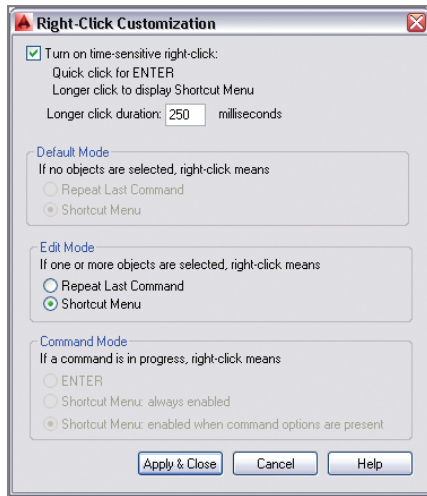

FIGURE 2.9 Turning on Time-Sensitive Right-Click for more efficient drawing
7. Open the Application menu and click the Options button at the bottom. Click the User Preferences tab in the Options dialog box that appears. Under the Windows Standard Behavior section, select Right-Click Customization and then, in the new dialog box, select Turn On Time-Sensitive Right-Click (see Figure 2.9). Click Apply & Close, and then click OK in the Options dialog box.